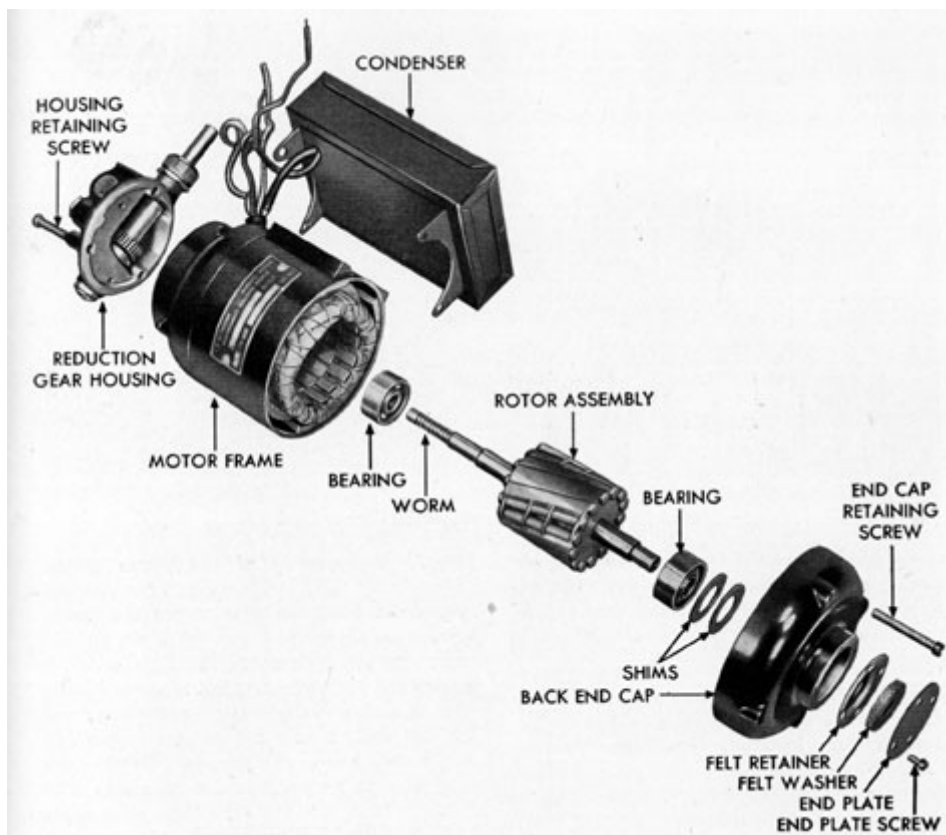

Figure 13-38. Constant speed motor partially disassembled.
**13G17. Disassembly of the constant speed motor.** (See Figure 13-38.) Remove the three reduction gear housing screws, and remove the housing. Remove the four screws that
**13G18. Assembly of the constant speed motor.** (See Figure 13-38.) If the felt retainers have been removed for any reason place a felt washer between the two felt retainers, and place the retainers in position on the back end cap.
**13G19. Disassembly of the reduction gear housing.** (See Figures 13-38 and 13-39.) Remove the reduction gear housing from the motor. (See Section 13G17.) Unscrew and remove the packing
**13G20. Assembly of the reduction gear housing.** (See Figures 13-38 and 13-39.) Insert the drive shaft into the packing gland in the reduction gear housing. Place the spacing bushing and worm gear on the shaft. Align the holes in the gear hub with the holes in the shaft, and install and tighten the two setscrews that secure the worm gear to the shaft. Install the thrust disk, adjusting screw, black felt washer, plain washer, adjusting screw, and adjusting screw lock nut on the opposite end of the gear housing. Place the three felt washers over the